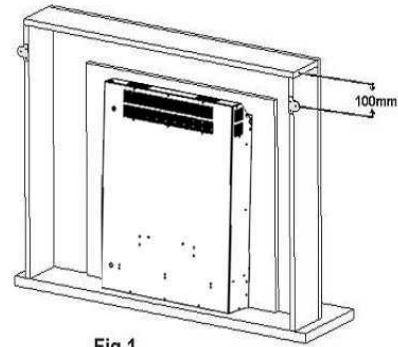

Fig.1
1 - Screw the 2 off Mirror brackets (B) to the rear of each leg at 100mm from the top of the suite using the 4 - off 5/8" screws (C) see Fig.1